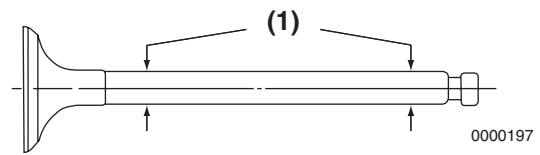

Figure 6-53
Use a micrometer to measure the valve stem diameter. Measure the valve stem near the combustion end and near the opposite end (**Figure 6-53, (1)**). See *Intake / Exhaust Valve and Guide* on page 6-7 for the service limit.